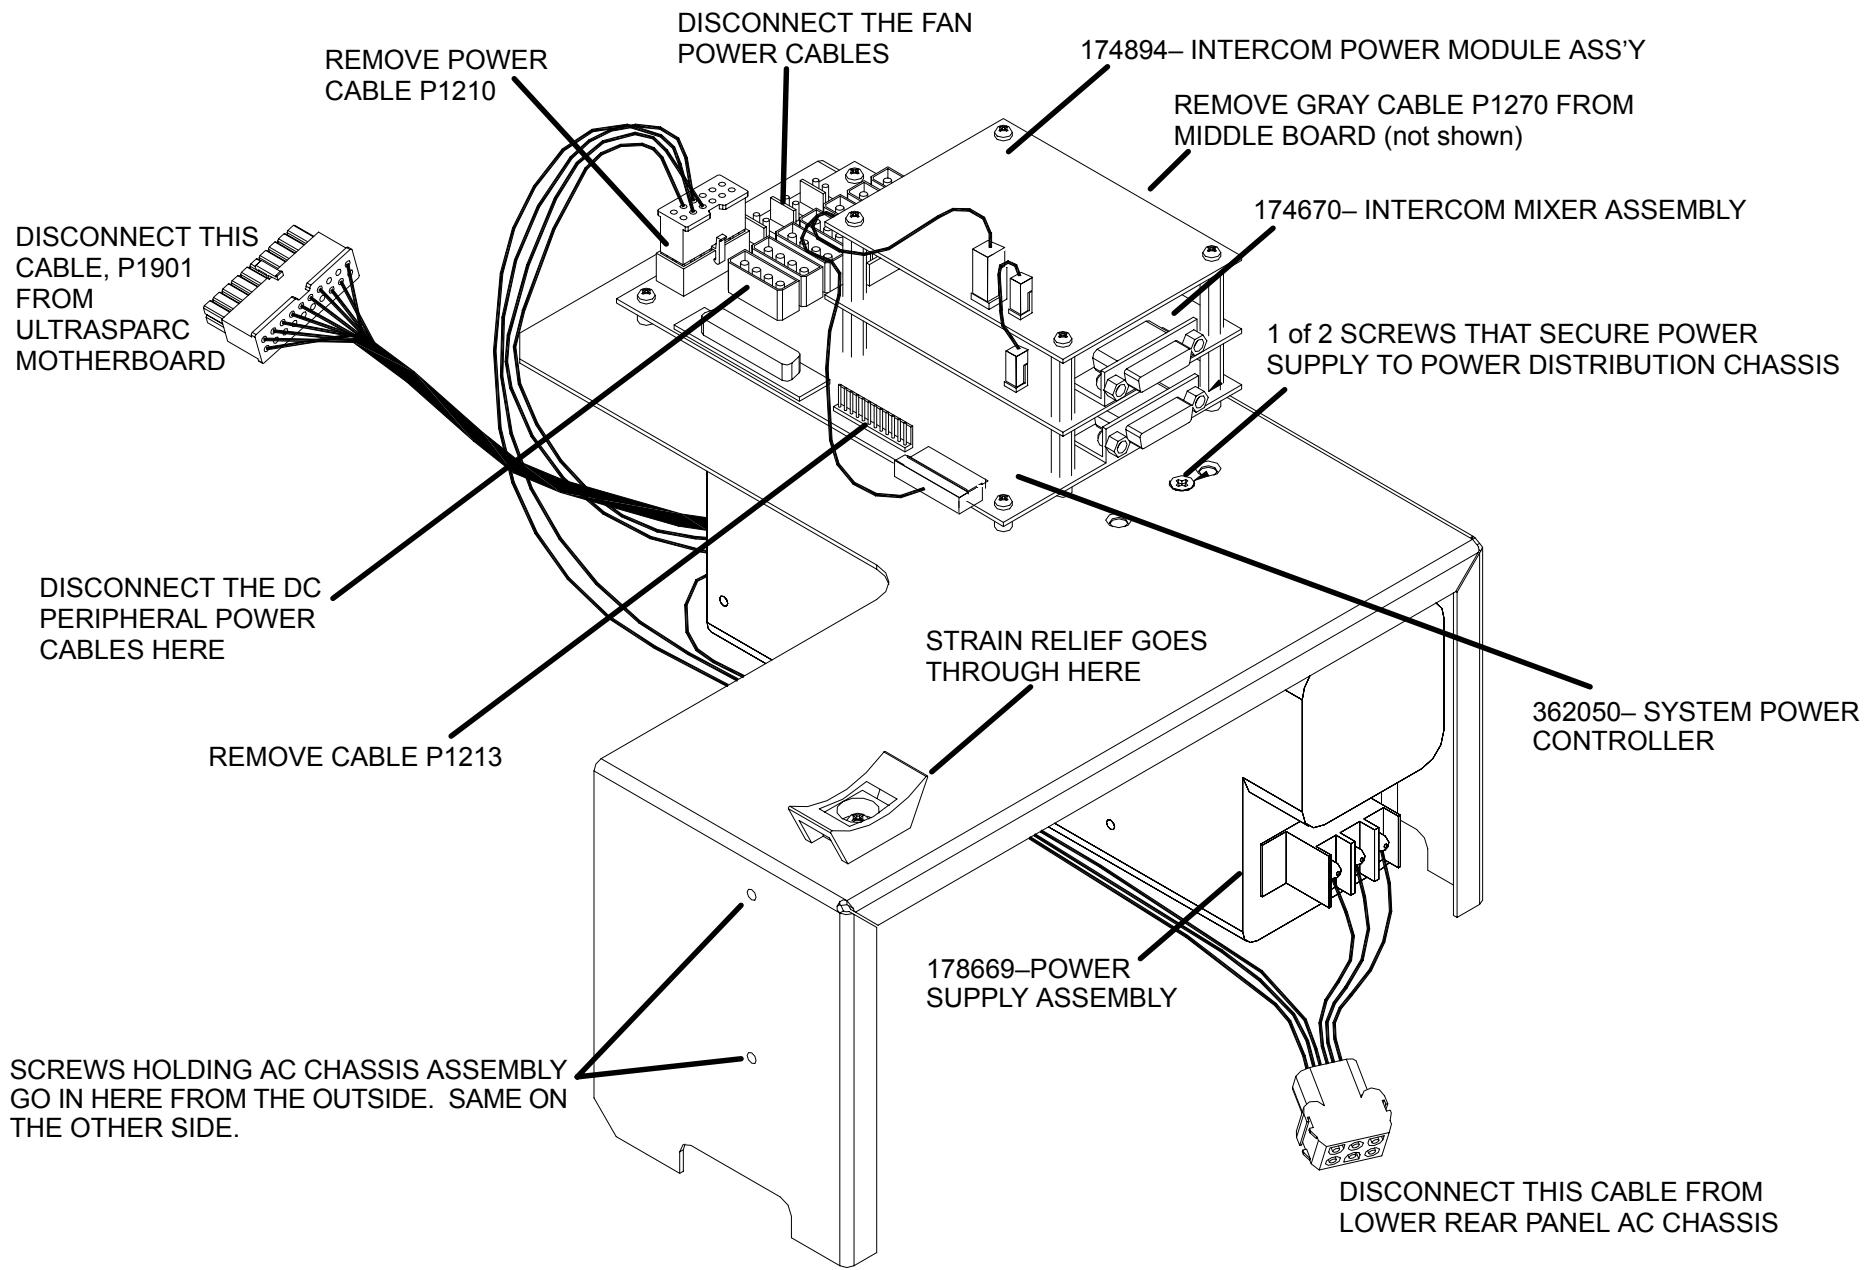

FIGURE 345 POWER DISTRIBUTION ASSEMBLY REMOVED
4. To remove the power supply, the power distribution chassis must first be removed. Refer to Figure 345. Several cables must be **tagged and removed** from the Power Distribution assembly:
6. Once all the cables are disconnected, remove the two sets of screws that secure the Power Distribution assembly to the frame. Slide the Power Distribution assembly in a bit and then out the left side of the chassis. (The power supply will be easier to remove with the entire power assembly removed.) Refer to Figure 345.